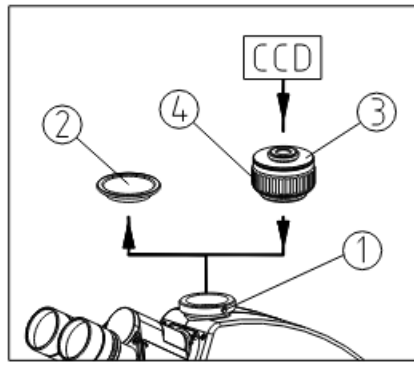

Fig. 14
1. Loosen the lock screw① of trinocular head and remove the dustcover② (See Fig. 14).
2. Remove the dustcovers from the camera adapter assembly③. Thread the top of the camera adapter into the C-mount of the camera. Place the assembly into the trinocular head (flange side towards microscope; camera end points up) as shown in the figure and screw down the lock screw①
3. For binocular observation, focus through the eyepieces until the image is sharp. Observe the image from the camera. If the image is out of focus, rotate the focus ring on the camera adapter③ to adjust the focus in the camera image until it is sharp.
4. If the image from the camera is rotated compared to the eyepieces, loosen the lock screw④ and rotate the camera until the images have the same alignment. Retighten the lock screw.